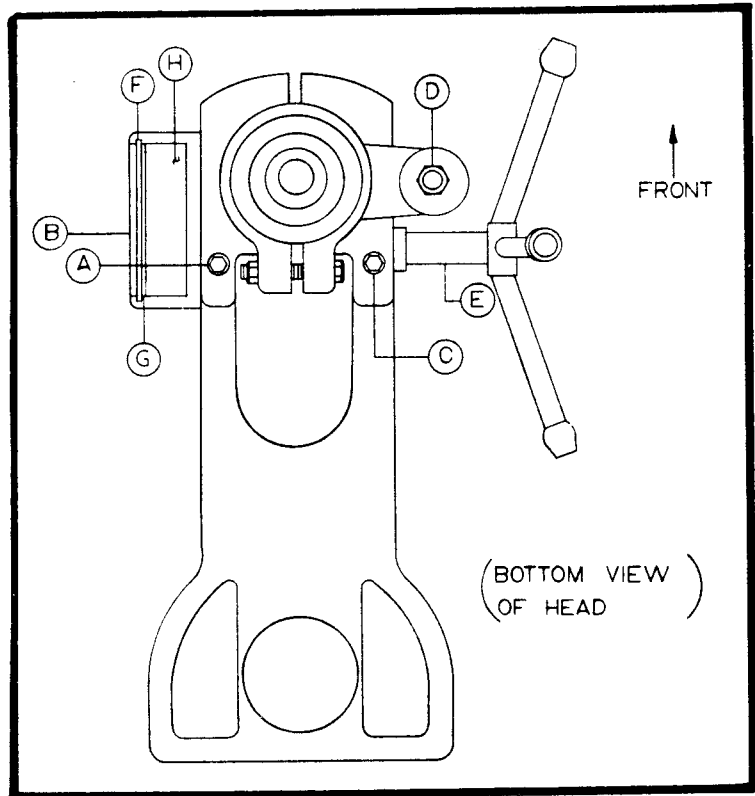
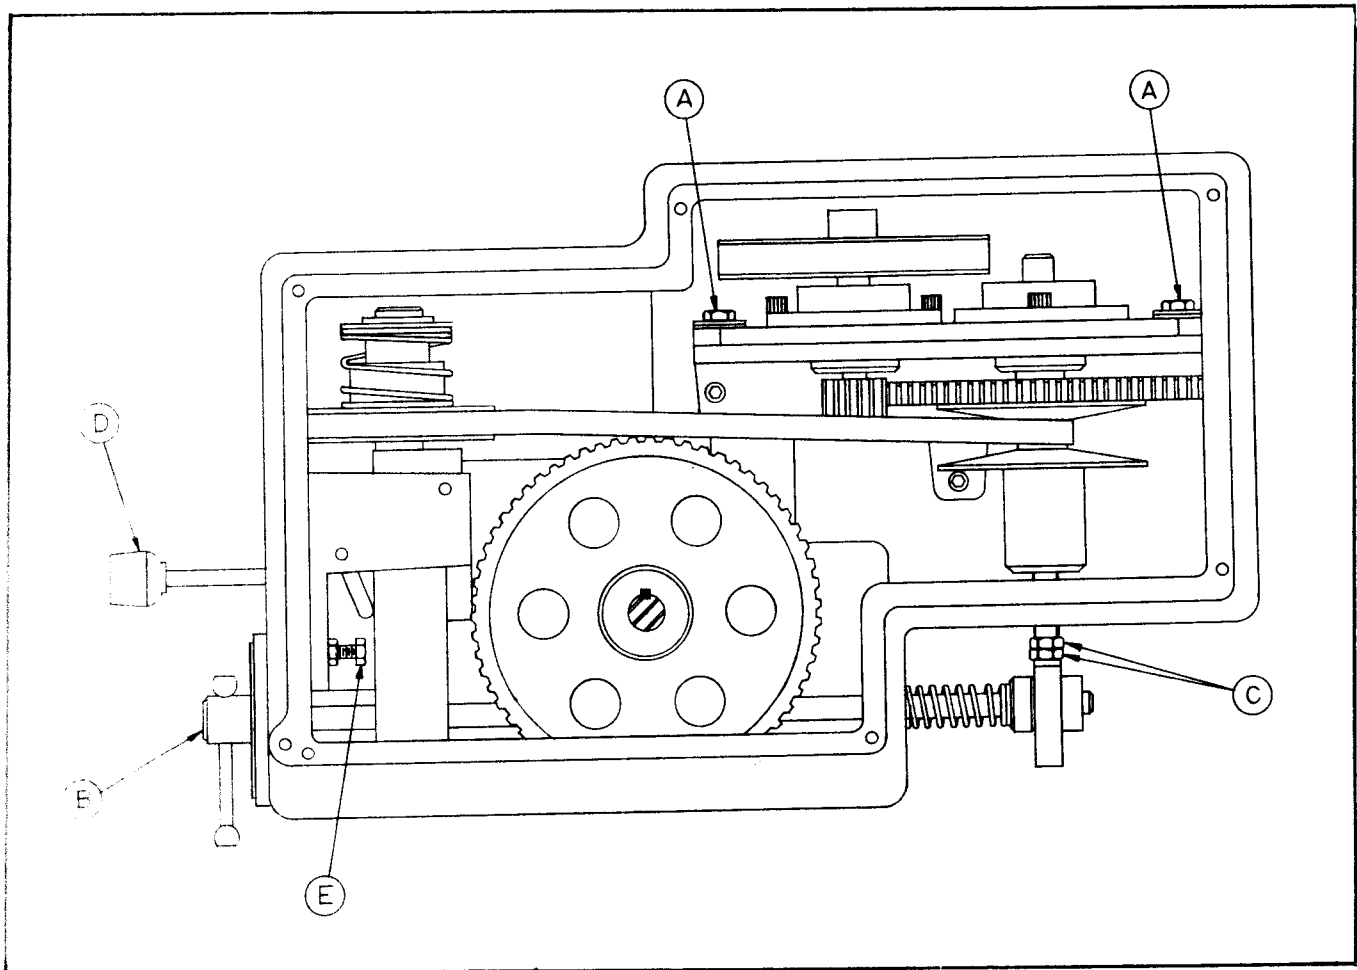

FIGURE 5
FIGURE 7
Spring tension for return of spindle, after hole drilling, has been pre-set at the factory. No further adjustment should be attempted unless absolutely necessary. Adjustment will probably be required if a multiple spindle drilling or tapping head is used. If adjustment is necessary, loosen lock screw (A) (Fig. 5) while holding quill spring housing (B). Do not allow the housing to turn in your hand, or spring will unwind. Turn entire housing assembly clockwise the number of turns necessary to cause the quill to return to its up position. (NOTE: The flat of the spring housing pilot is lined up with the spring loading hole on the body of the spring housing.) Reset lock screw (A), make sure point of screw mates to flat on the housing journal.
1. Hold quill return spring housing (B) in left hand (See Fig. 5) and loosen lock-screw (A). Let spring unwind slowly, by allowing can to turn in hand.
- Remove lock ring (F) and cover plate (G) (Fig. 5) from spring housing and make certain tongue on return spring is properly inserted in slotted end of pinion shaft. Replace cover and adjust spring tension as instructed under heading "QUILL RETURN SPRING ADJUSTMENT".
- 1 Hold the quill return spring housing (B) Fig. 5 in the left hand and loosen lock screw (A). Let spring slowly unwind by allowing the housing to rotate in the hand.
- 2 Clamp the quill with the quill binder so that it will not fall out of the head. Unlock and remove setscrew (A) and remove the standard pinion. Install the power feed pinion and its locking sleeve. Install the setscrew in the outside tapped hole and lock the sleeve in position.
- 4 Mount the power feed housing and worm gear on the drill press piloting the casting on the feed pinion locking sleeve. Adjust the casting to be parallel with the head cast with the setscrews mounted on the head casting ears and lock in place. Install the sheet metal bracket to the motor base adjusting stud and lock it down against the feed box castings with the screw provided. (Figures 7 & 8).